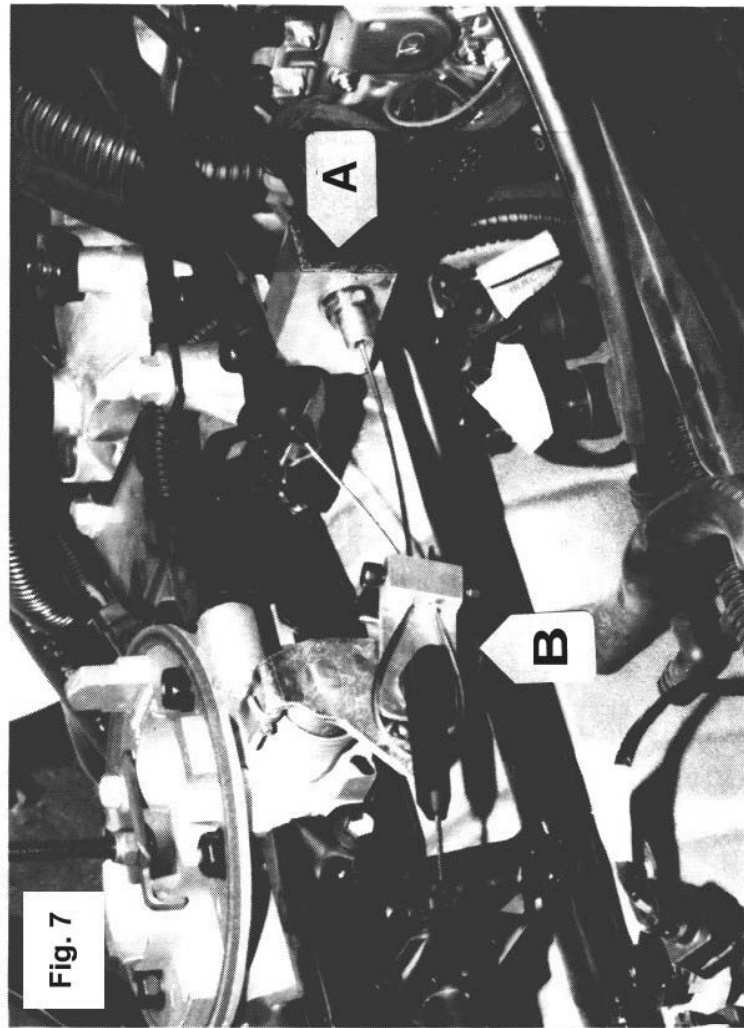

Fig. 7
- 17) Mount idler throttle bracket w/OEM bolt as shown in fig. 7-A.
- 18) Route solenoid's cable to throttle body and attach to idler bracket as shown in fig. 7-A. Secure cable away from heat source, sharp edges or moving parts.
- 19) Attach idler throttle cable to throttle body using linkage adapter as shown in fig. 7-B.
- 20) Leave approx. 1/2" of slack in cable and tighten the screws on the linkage adapter. (Fig. 7-B).